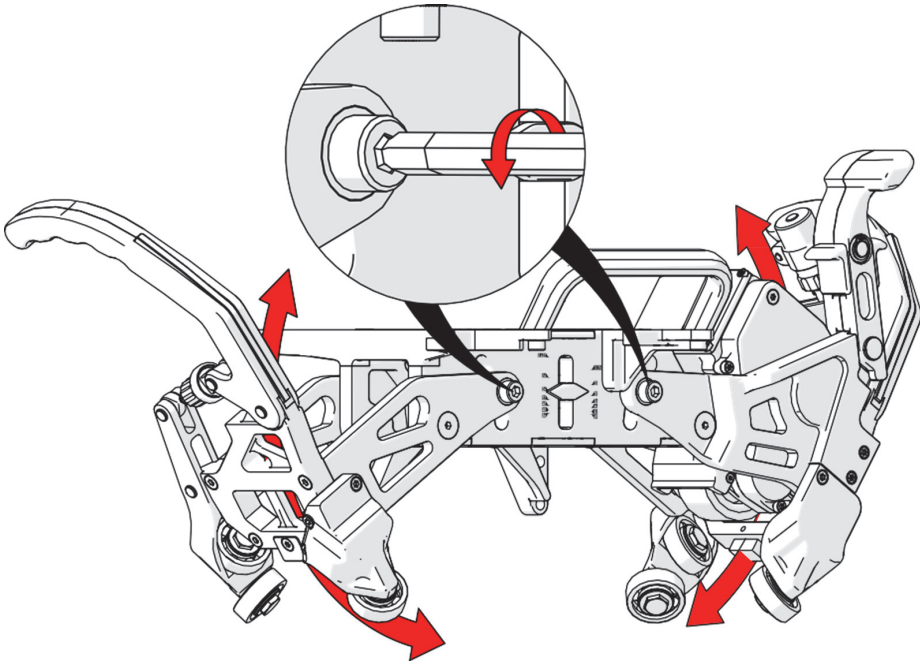

Figure 1-29 Adjusting the pipe diameter
The markings on the rear of the motor carriage indicate various pipe diameters in inches (see Figure 1-29 on page 47). To adjust the Motorized Scanner to the pipe diameter, locate the pre-determined marks on the back of the scanner (see Figure 1-29 on page 47).
1. Loosen the two bolts using 6mm hex driver and swivel the tractor arms to slide the pointer aligned with the desired diameter mark (see Figure 1-29 on page 47).